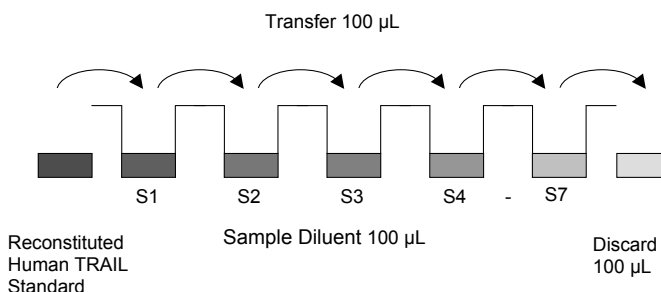

Fig. 7 Dilute standards - microwell plate.
3. Standard dilution on the microwell plate (alternatively the standard dilution can be prepared in tubes, see “External standard dilution” on page 3): Add 100 µL of Sample Diluent in duplicate to all standard wells. Pipette 100 µL of prepared standard (see “Human TRAIL standard” on page 3, concentration = 2,000.0 pg/mL) in duplicate into well A1 and A2 (see Table 1 on page 3). Mix the contents of wells A1 and A2 by repeated aspiration and ejection (concentration of standard 1, S1 = 1,000.0 pg/mL), and transfer 100 µL to wells B1 and B2, respectively (see Figure 7). Take care not to scratch the inner surface of the microwells. Continue this procedure 5 times, creating two rows of human TRAIL standard dilutions ranging from 1,000.0 to 15.6 pg/mL. Discard 100 µL of the contents from the last microwells (G1, G2) used.